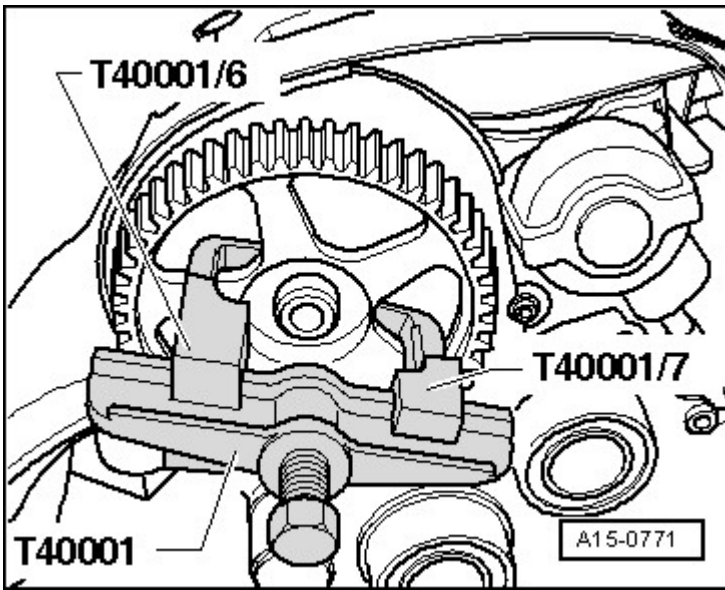

Fig. 3: Identifying Puller T40001, Claw T40001/6 And Claw T40001/7
- Camshaft sprocket, removing, refer to **Fig. 3**